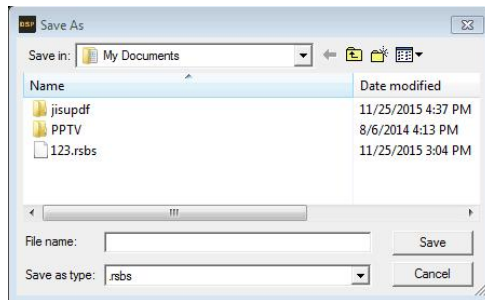

Figure 3.4.6
**Step 2:** Click "single File " will bring up the file after item Save As dialog window (Figure 3.4.6).